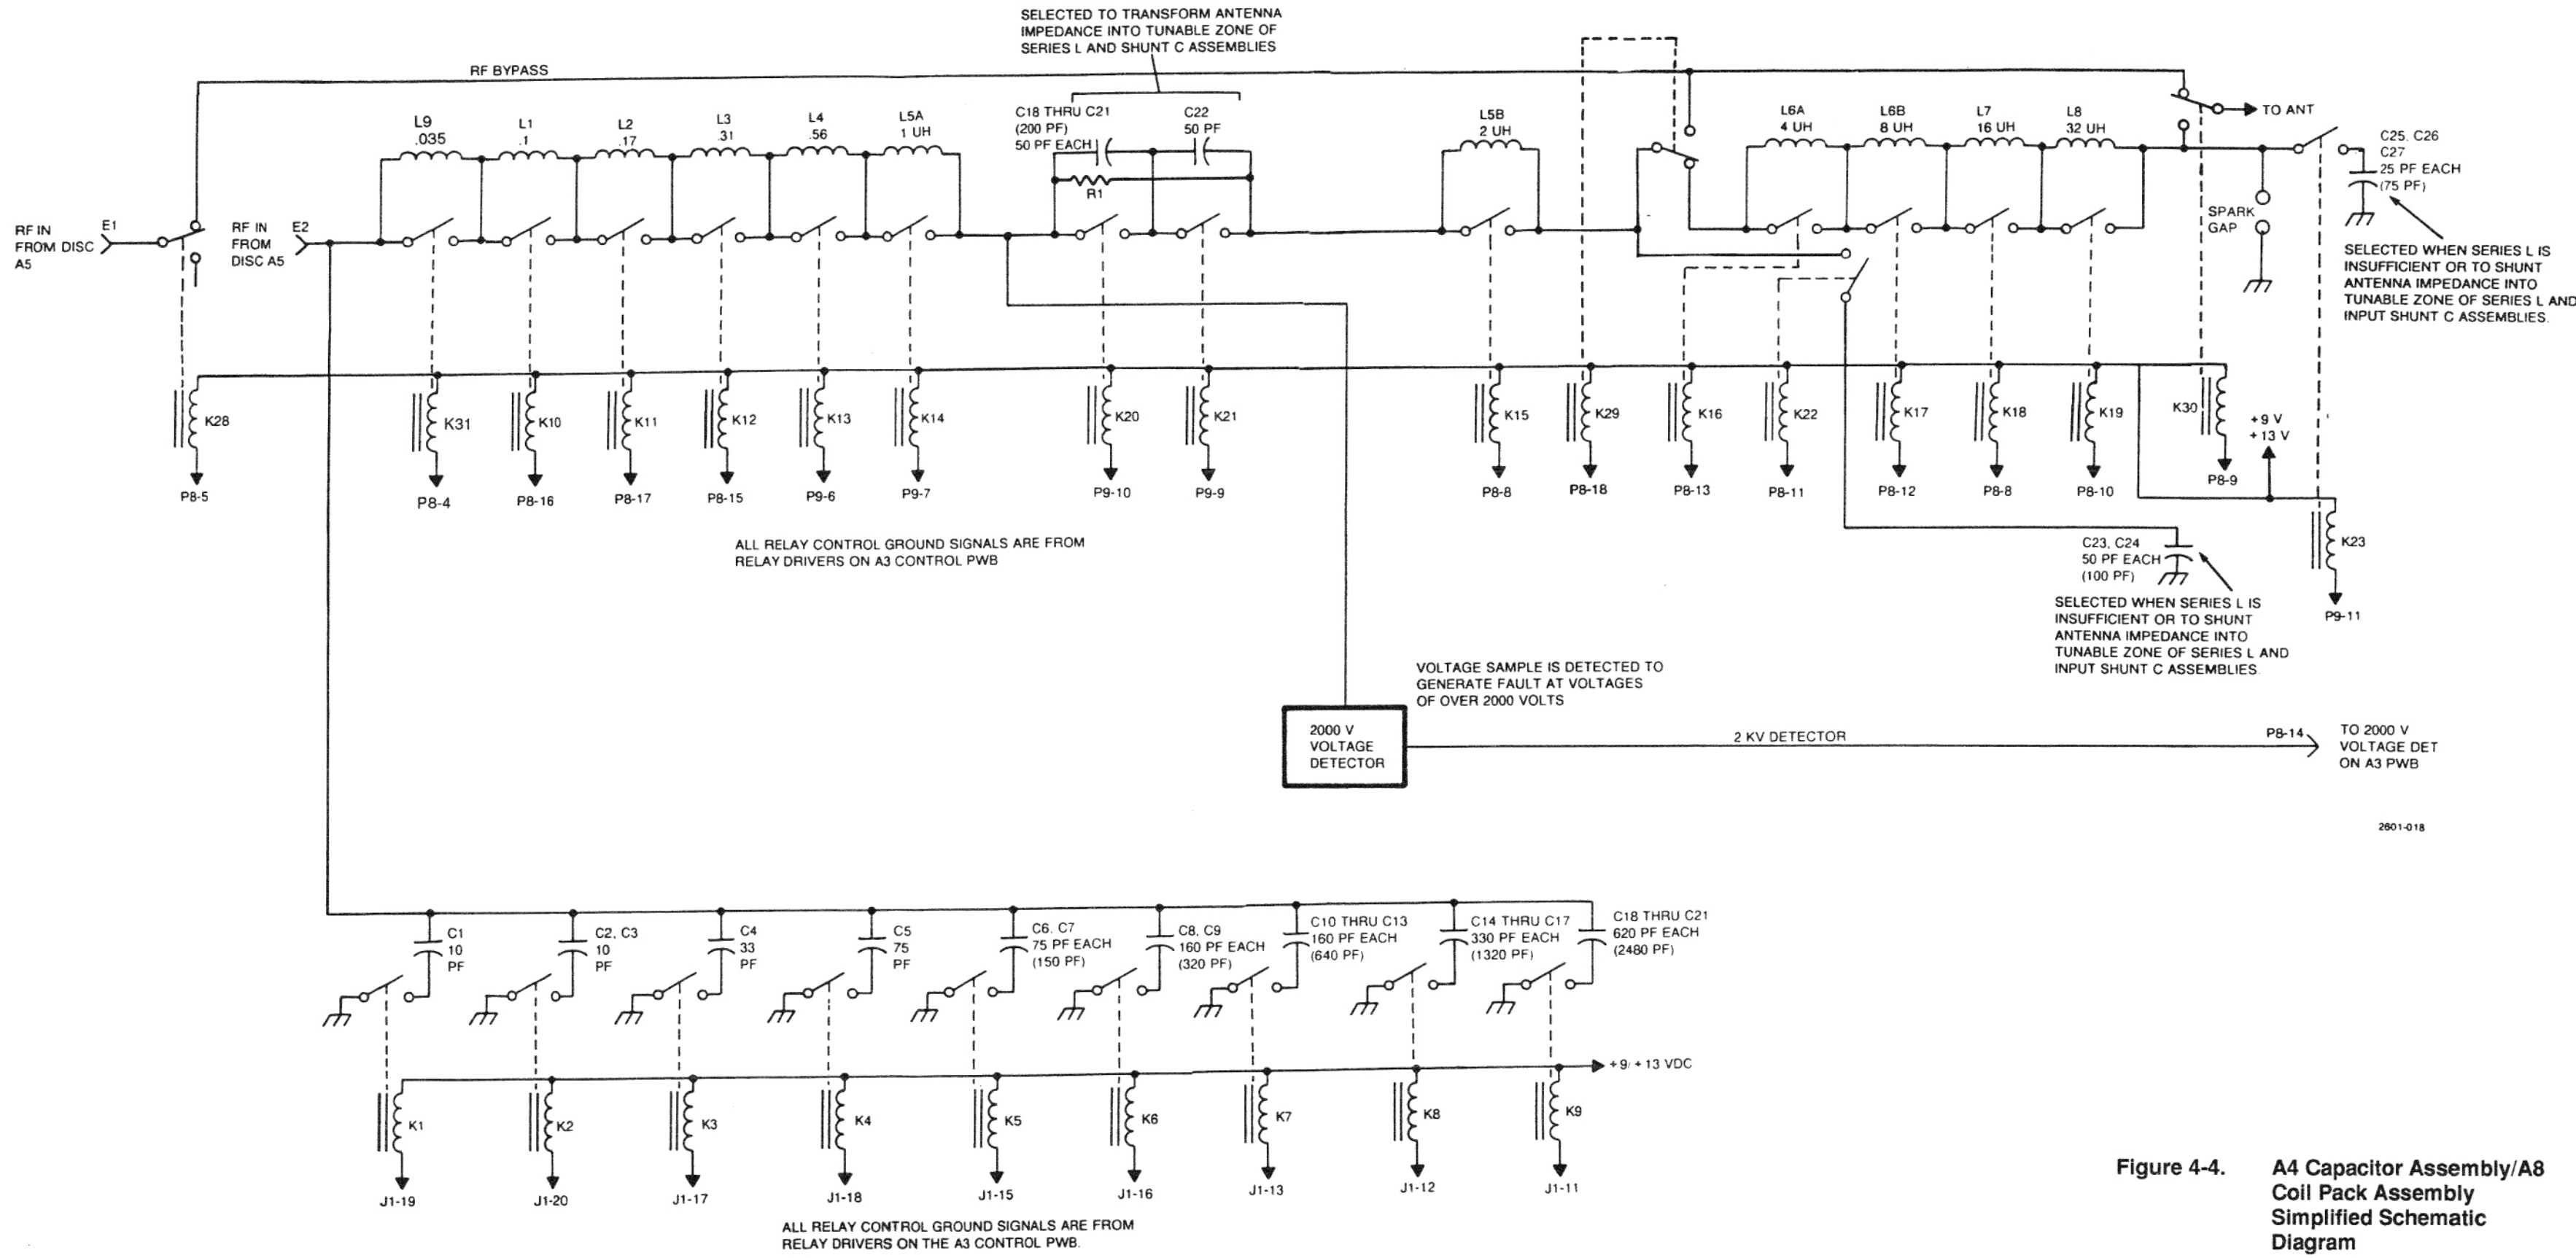

Figure 4-4. A4 Capacitor Assembly/A8 Coil Pack Assembly Simplified Schematic Diagram
4.3.4 A4 Capacitor Assembly/A8 Coil Pack Assembly (see figure 4-4)